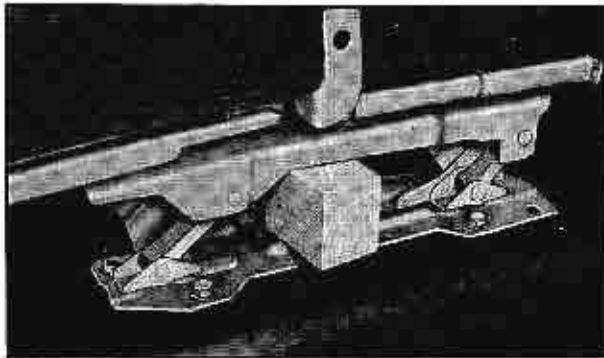

Fig. 3-56 Floor Plate to Adjuster Support
2. Place a wood block at each seat adjuster between floor plate and upper section of adjuster as shown in Fig. 3-56.